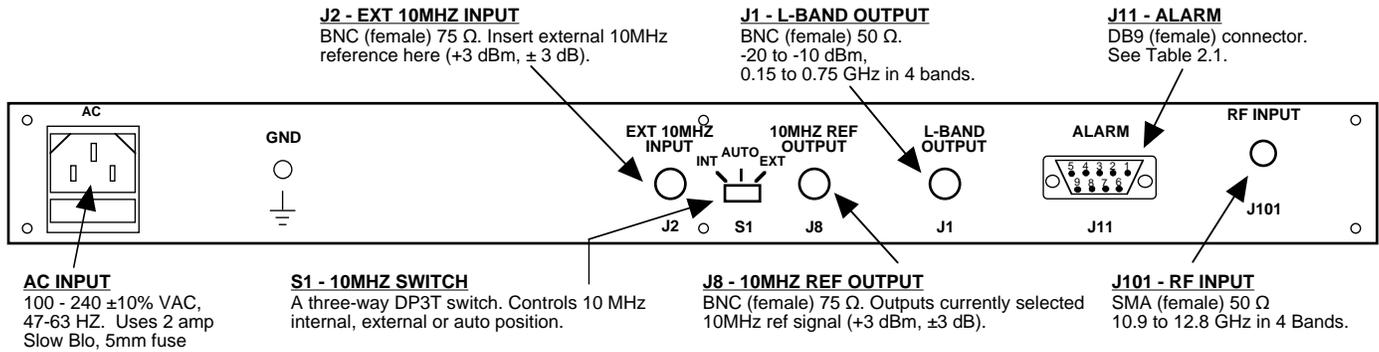

FIGURE 2.1 2116-41-109# Rear Panel I/O's
Figure 2.1 shows the input and output connectors on the rear panel.
1. Connect a -10.9 to -12.8 dBm signal for to RF INPUT, J101 (Figure 2.1).
5. Select either INT (for internal 10MHz ref), AUTO (for internal 10MHz ref UNLESS an external 10MHz, 3 dBm signal is connected to J2), or EXT (for external 10MHz, 3 dBm ref that is inserted at J2) on rear panel switch S1 (Figure 2.1).
7. Check that a 10MHz, 3 dBm \pm 3 dB signal is present at the 10MHZ REF OUTPUT (J8) (Figure 2.1).